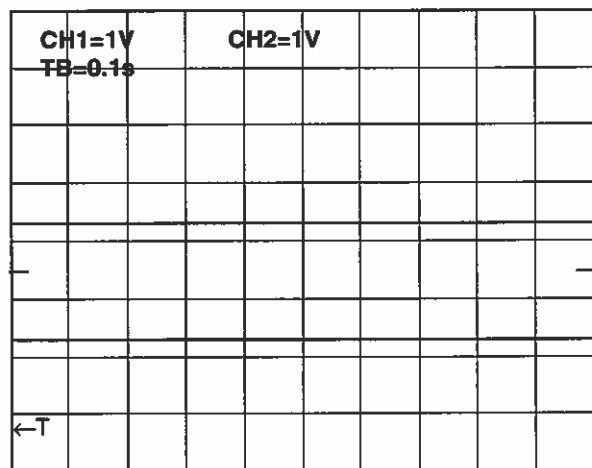

Figure 1.3 Start-Up Display
When switched on with the POWER button (63), the instrument will display information similar to that shown in Figure 1.3.